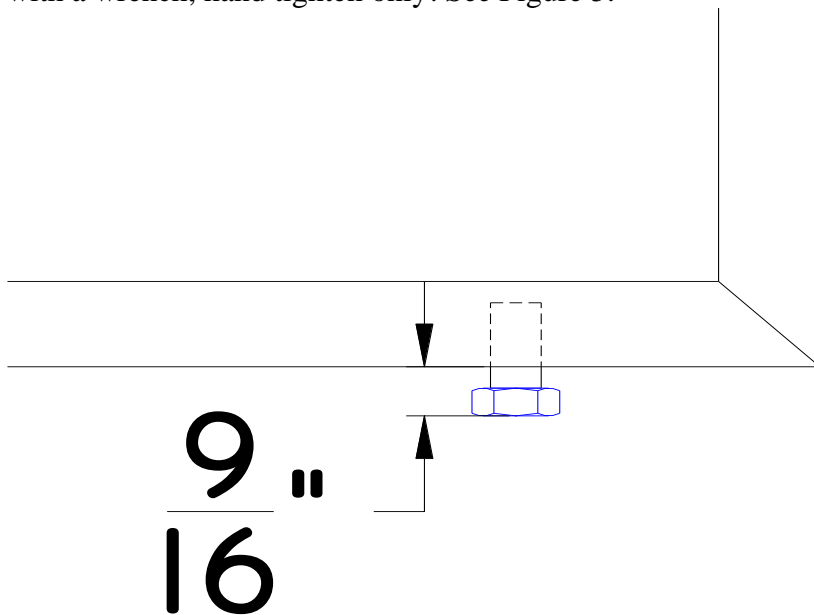

Figure 5.
8. Leave the bolts extending out of the plug approximately 9/16" as shown. Do not tighten them with a wrench, hand tighten only! See Figure 5.